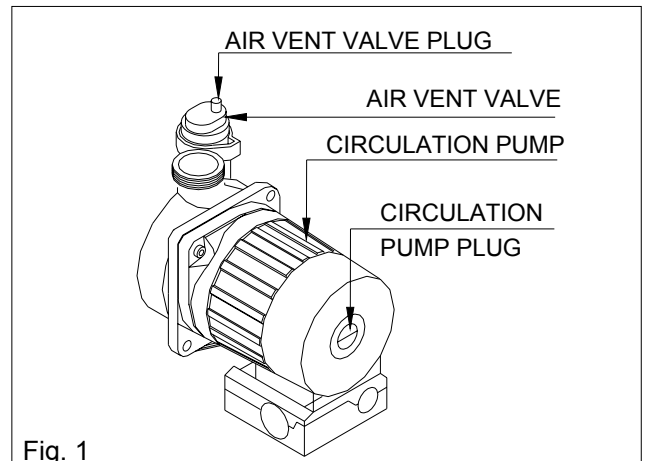

Fig. 1
- Check that the plug of the air vent valve has been slackened slightly to allow air to escape from the system (fig.1).